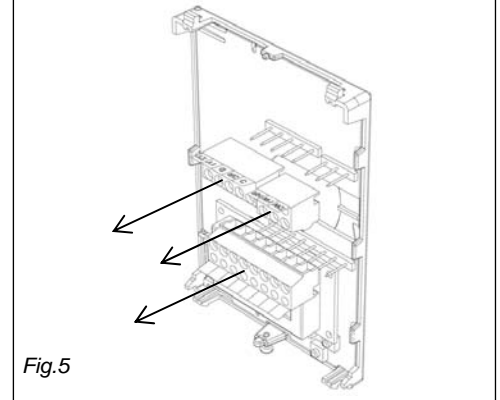

Fig.5
- 10- Pull out the screw terminal blocks using the pull tabs on each connector. (Fig. 5)
- 13- Gently push back into hole excess wiring (Fig. 5)